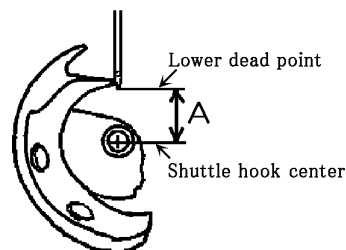

Fig.1
2. When the needle bar is brought to the lower dead point by rotating the handwheel, measure the clearance (A) between the needle point and the shuttle hook center.(Fig. 1)
A = 11.2 ± 0.2 mm (Fig.1)